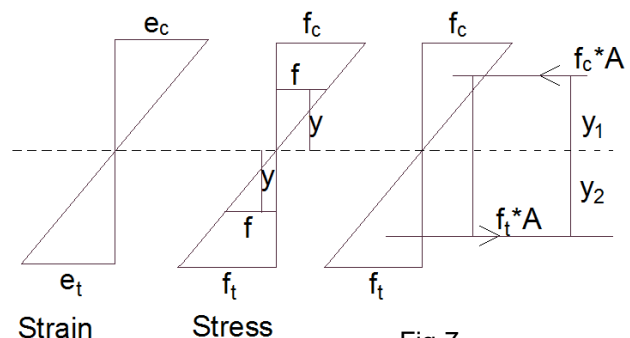

Fig.7
- As shown in Fig.7 the maximum strain in compression is e_c , corresponding to maximum stress f_c , and maximum strain in tension is e_t and corresponding to maximum stress f_t